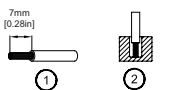

Figure 5
You can use flexible (stranded wire) or solid wire with cross section 0.52-3.3 mm² (AWG 20-12) and torque of 0.46Nm (4.05lb in). To secure reliable and shock proof connections, the stripping length should be 7 mm [0.28 in] (see Fig. 5 (1)). Please ensure that wires are fully inserted into the connecting terminals as shown in Fig. 5 (2).